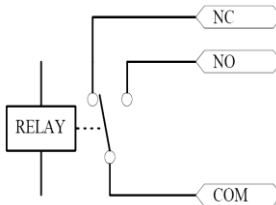

Figure 2
- 2. Electric lock interface (See Figure 2)
Reset Non Volatile Memory by switching of the power and placing the jumper connector onto the pins 1 & 2 as per figure 2. After switching power on remove jumper, the BC-2000 will give a beep and is now reset to factory default values.